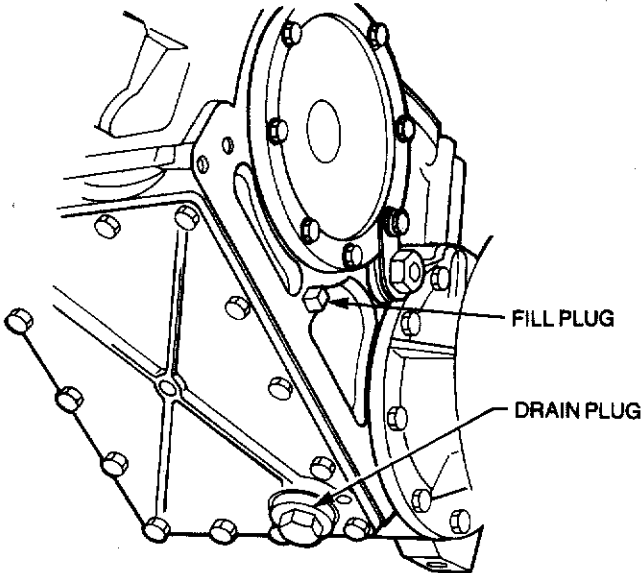

Figure 3-7 Transfer case drain and fill plugs
**326.** The transfer case drain plug is located in the bottom of the transfer case (see Fig. 3-7). The plug should be cleaned each time the transfer case oil is drained. Use a new sealing washer on installation.
**327.** The transfer case fill plug is located on the rear of the housing (see Fig. 3-7). Fill the transfer case with the recommended lubricant to the bottom of the fill hole.